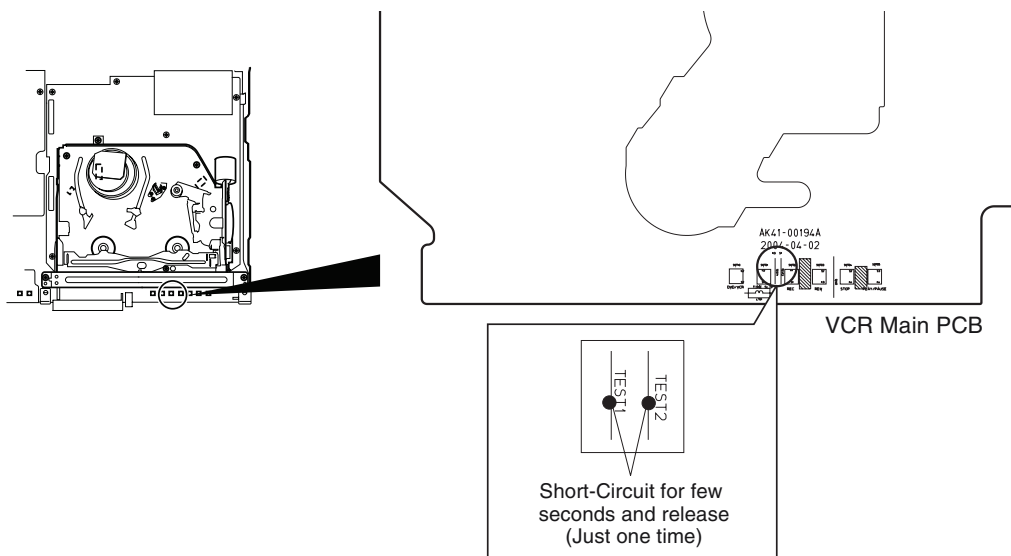

Fig. 5-2-2 Locations of Test points
- 2) Intermittently short-circuit the two Test Points on VCR Main P.C.B while in the adjustment mode. Check that “TEST” appears in the display. (See Fig.5-2-2)
- 2) Intermittently short-circuit the two Test Points on VCR Main P.C.B while in the adjustment mode. Check that "TEST" appears in the display. (See Fig.5-2-2)